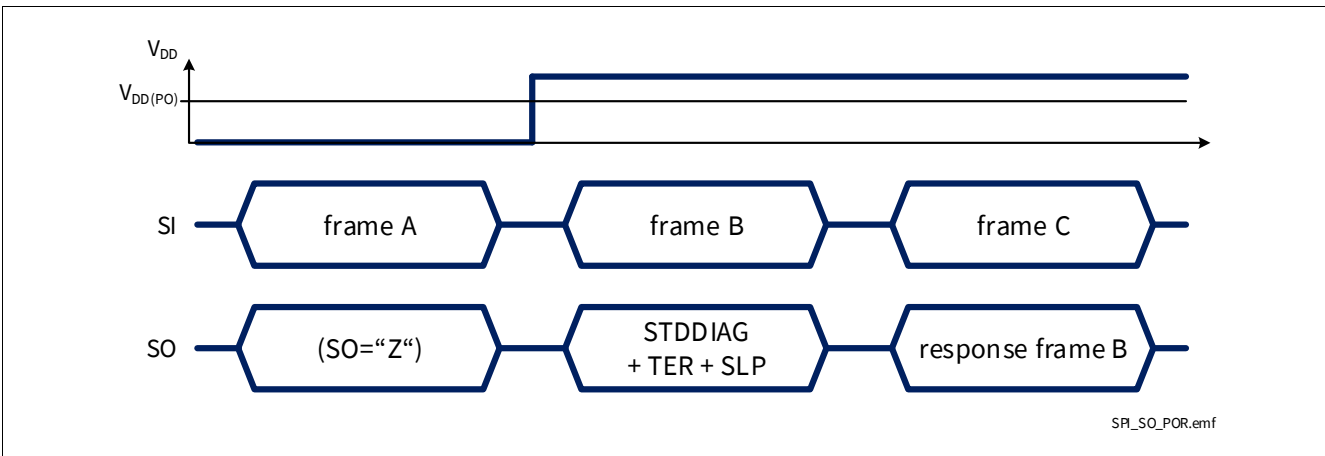

Figure 44 SPI response after coming out of Power-On reset at V_{DD}
- When BTS71220-4ESE digital supply comes out of Power-On reset condition, as shown in Figure 44